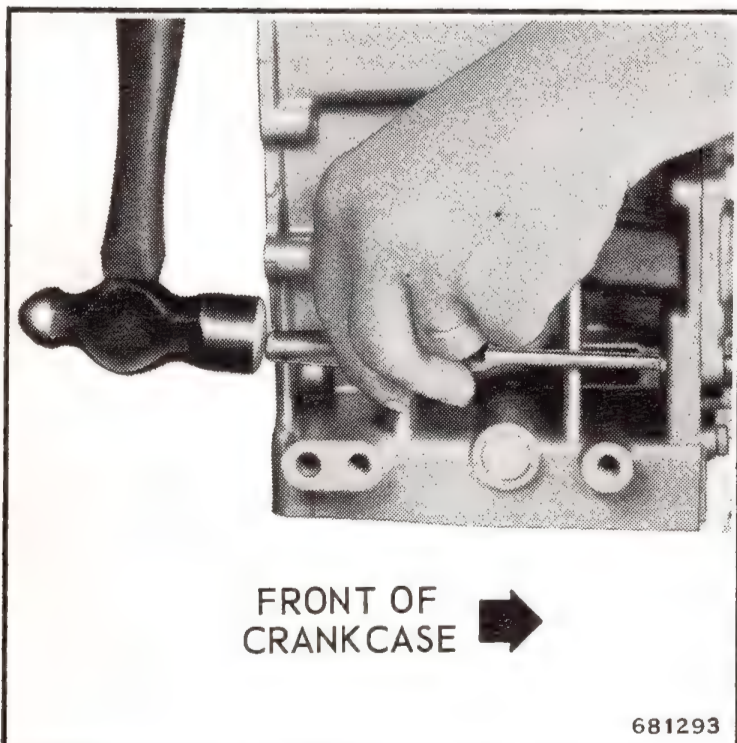
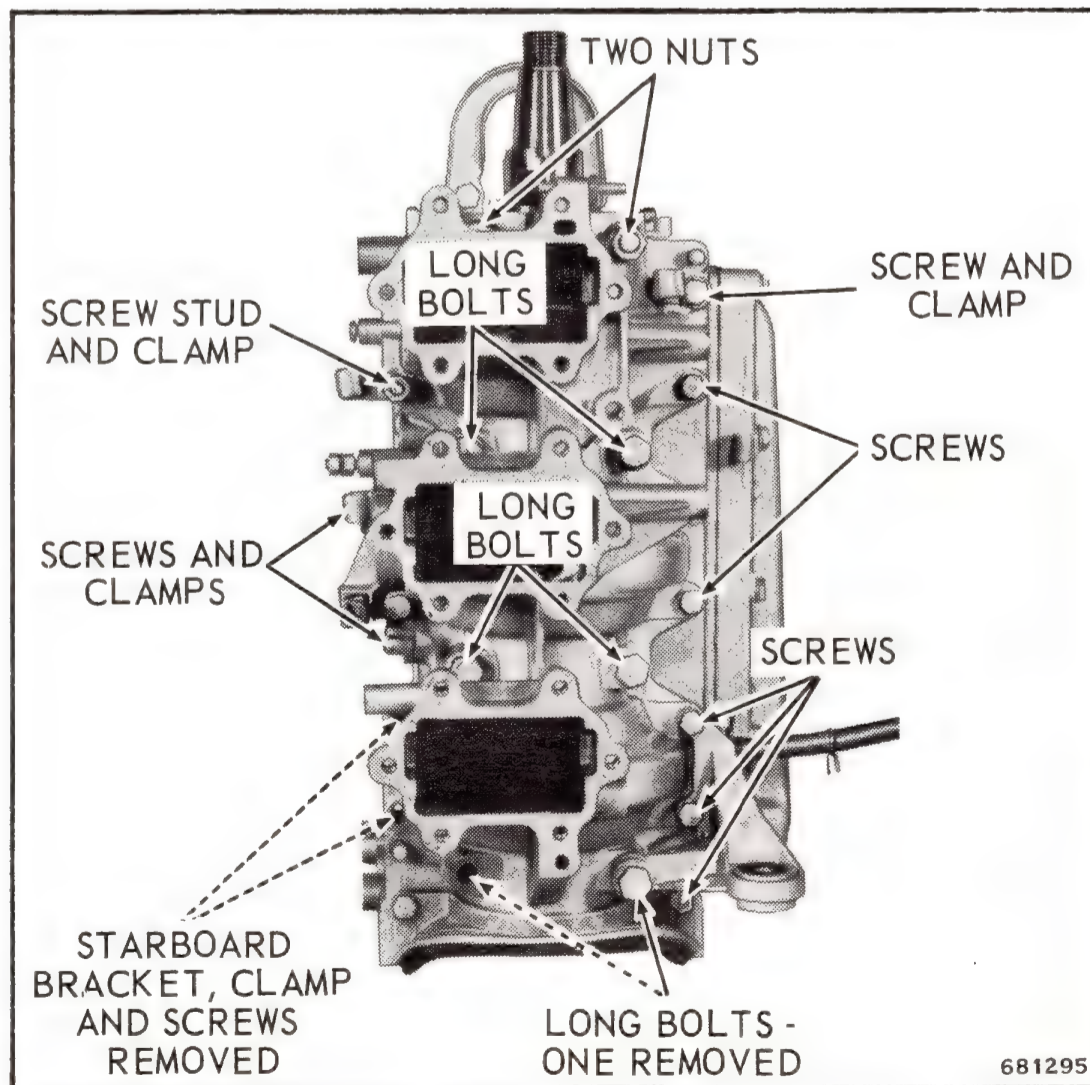

Figure 5-15. Driving Out Taper Pin
Figure 5-16. Crankcase Screws and Nuts
c. Drive out two taper pins from back to front of crankcase. See Figure 5-15. Remove eight small and four large hex head screws and nuts attaching crankcase to cylinder block. See Figure 5-16.